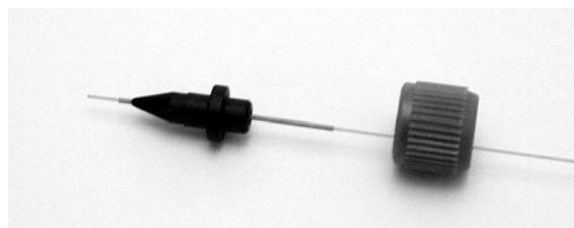

Figure 5.19: Fitting nut, MicroFerrule, and sleeve threaded by PicoTip
- 2) Thread the end of the PicoTip tubing through a green MicroTight sleeve, which is used for assembly with 360 µm OD tubing. Make sure the PicoTip does not extend past the tubing sleeve end that will be inserted into the MicroTee. Thread the sleeved PicoTip through the fitting nut and a black MicroFerrule, as shown in Figure 5.19.